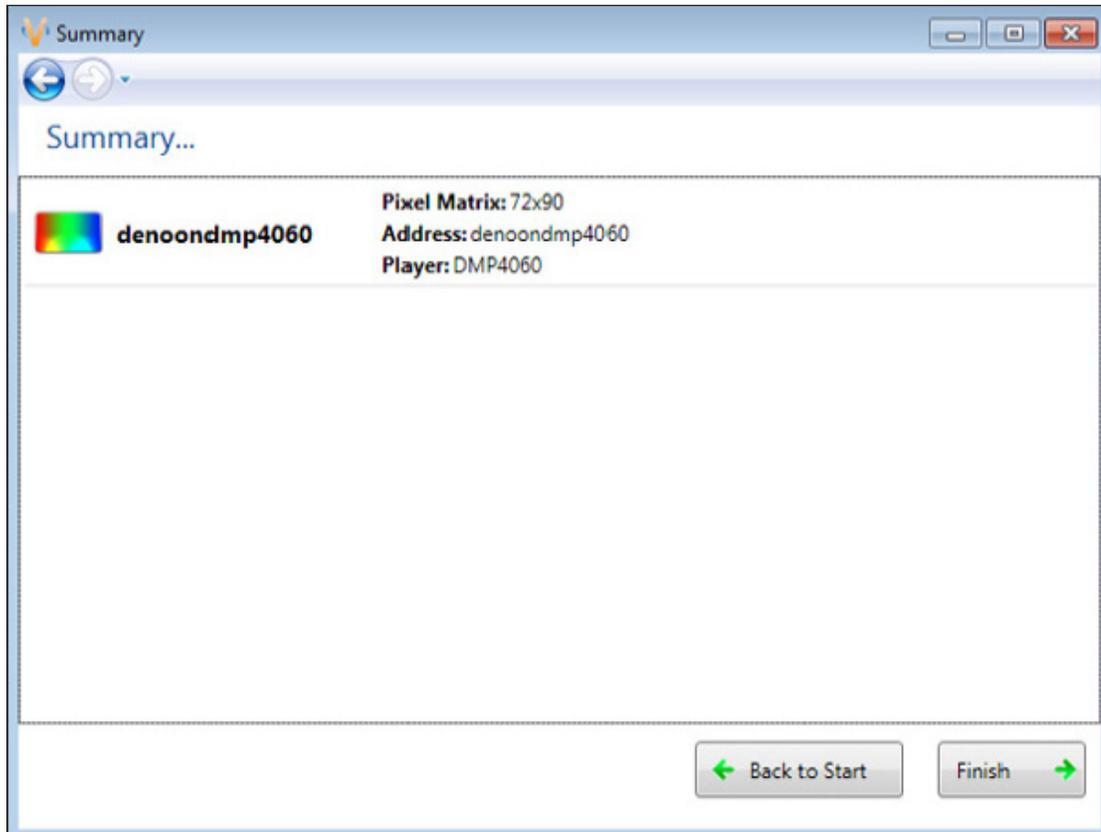

Figure 45: Display Configuration Summary Window
7. Click **Back to Start** in the **Summary** box to return to the beginning of the process and configure another display. Click **Finish** to complete display configuration. Refer to **Figure 45**.